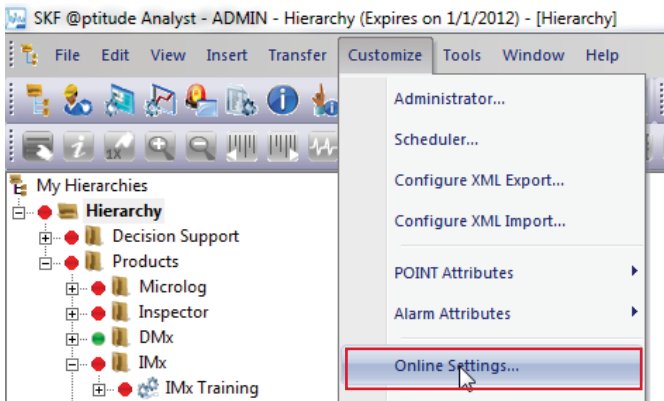

Fig. 21. From SKF @ptitude Analyst, go to Customize / Online Settings.
- From SKF @ptitude Analyst, go to **Customize / Online settings** (→ fig. 21).